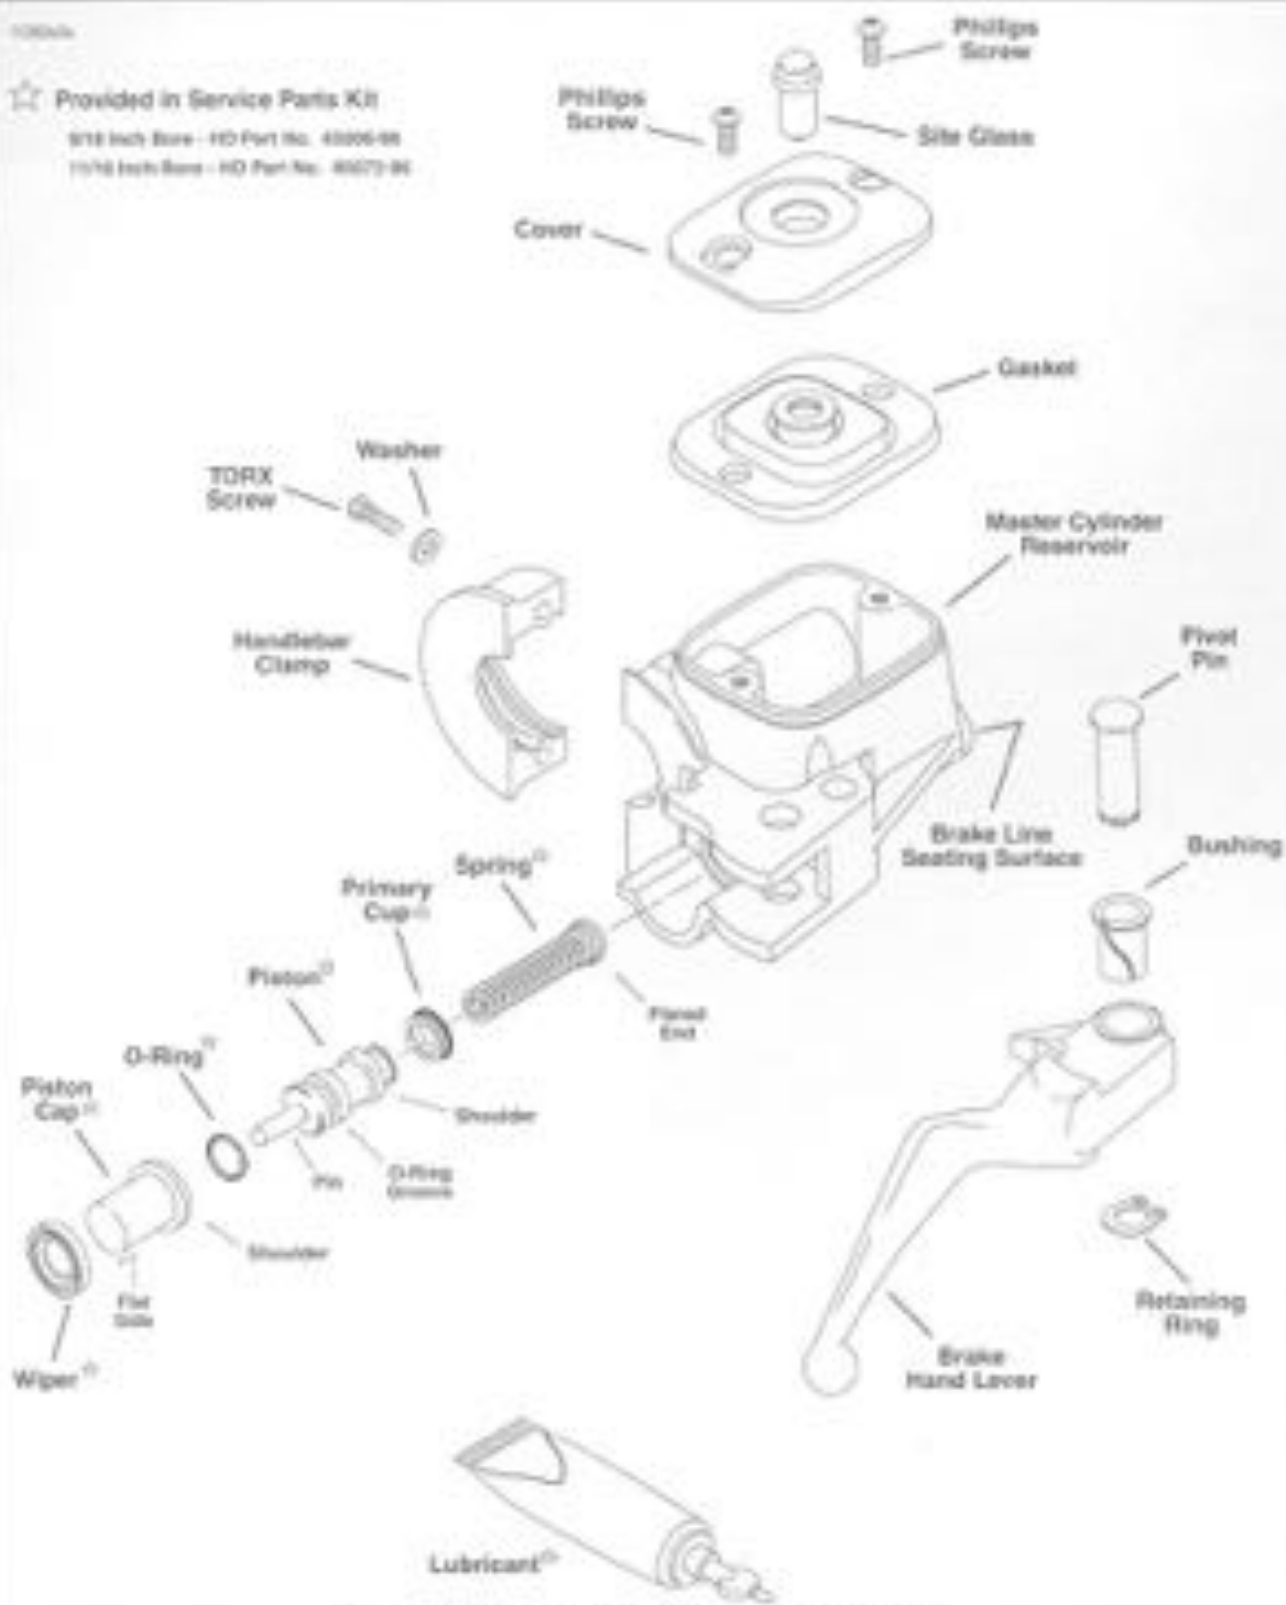

Figure 2-44. Front Brake Master Cylinder Assembly
4. Using a T27 TORX drive head, remove the two screws with flat washers securing the handbar clamp to the master cylinder housing. Remove the brake lever/master cylinder assembly and clamp from the handbar. See Figure 2-44.
1. Fit O-ring into groove at front of piston (pin side). See Figure 2-44.